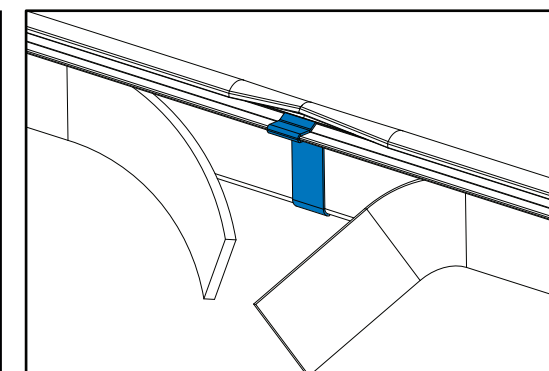

FIGURE 2
3. Figure 2 shows the addition of the split rail seal - Pull back small parts of the main rail seal on the backside of the rail and use this tape to seal the gap as shown. Re-adhere the main rail seal before installing it on the vehicle.